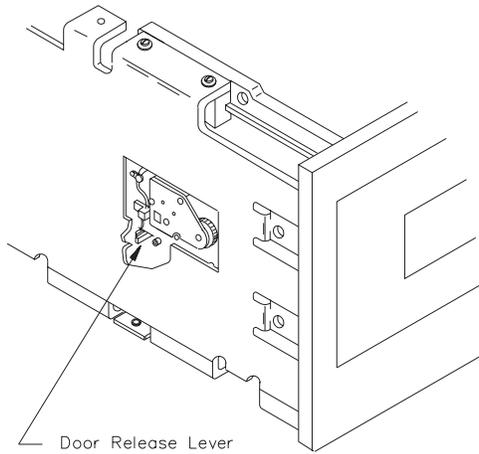

Figure 12-1
2. Open the door on the EXB-8200 using an appropriate tool, such as a small screwdriver, to move the door release lever toward the front of the EXB-8200. Figure 12-1 shows the location of the door release lever. The amount of force required to activate the lever is slight and the movement is less than 1/8 of an inch. Be careful not to damage the small switch contacts next to the door release lever.